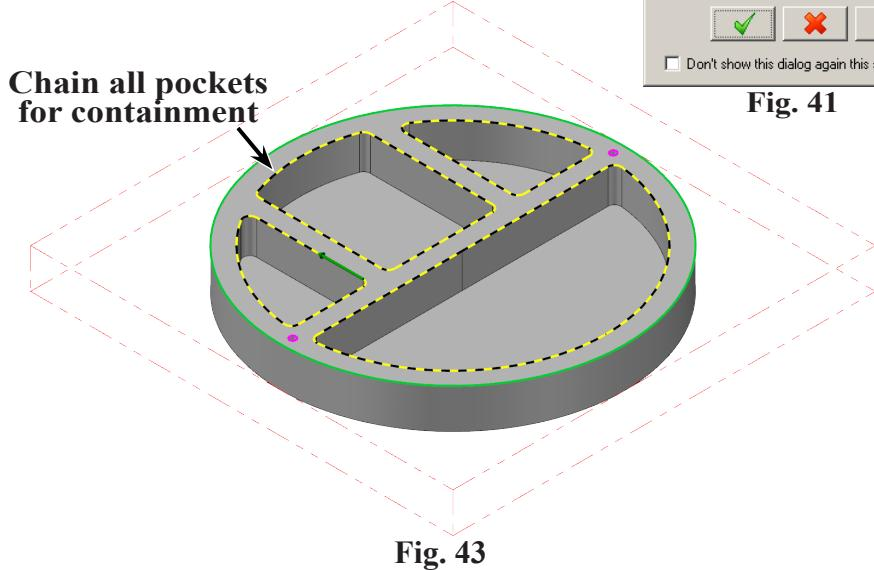

Fig. 43
Step 5. Click **any geometry of each pocket** to chain all pockets and click OK  in Chain dialog box, **Fig 43**.